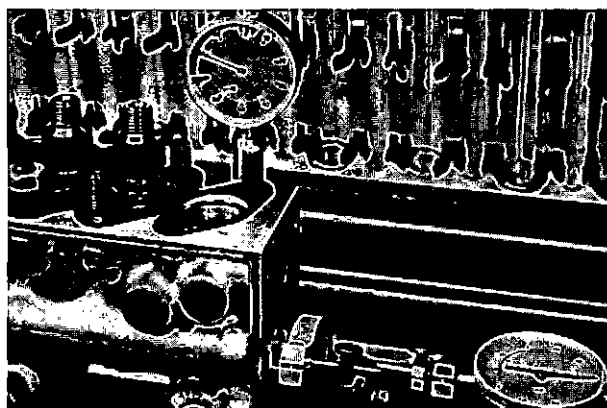

Fig. 61 Adjusting thickness of phasing shims
- (v) Turn the pump camshaft manually in direction of rotation (clockwise, viewed from drive end) until oil *just* ceases to flow from the leak-off. The dial gauge reading at this point should be within the limits specified against 'Plunger lift to port closure' in Stage 'A' of the Test Schedule. Adjust, if necessary, by means of the phasing shims beneath the barrel/delivery valve assembly (fig. 61), reducing shim thickness to rectify late closure, and vice versa. Pumps with serial numbers prefixed '626' and later have two-piece shims which can be changed without removing the barrel/delivery valve assembly. Variation of shim thickness affects the dial reading by a corresponding amount. When correct, leave camshaft at No. 1 port closure and set the pointer of the graduated disc on the pump drive to a convenient figure, noting this for reference during phasing.
Adjust the stop (fig. 61, Item 'C') to give fuelling of 2 ccs. per 100 strokes at 325 r.p.m. Final adjustment is made on the engines at installation.